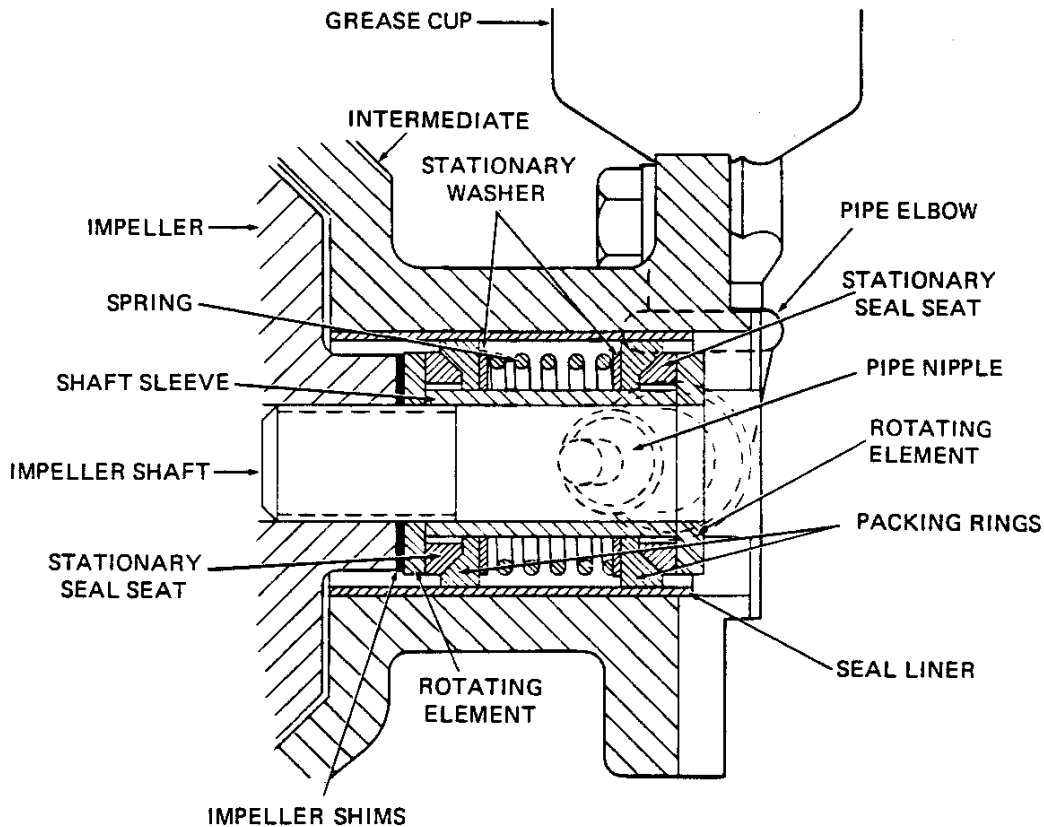

Figure 3. GS00625 Seal Assembly
To ease installation of the seal, lubricate the packing rings and seal liner (5) with water or a very **small** amount of oil, and apply a drop of light lubricating oil on the finished faces. Assemble the seal as follows, (see Figure 3).